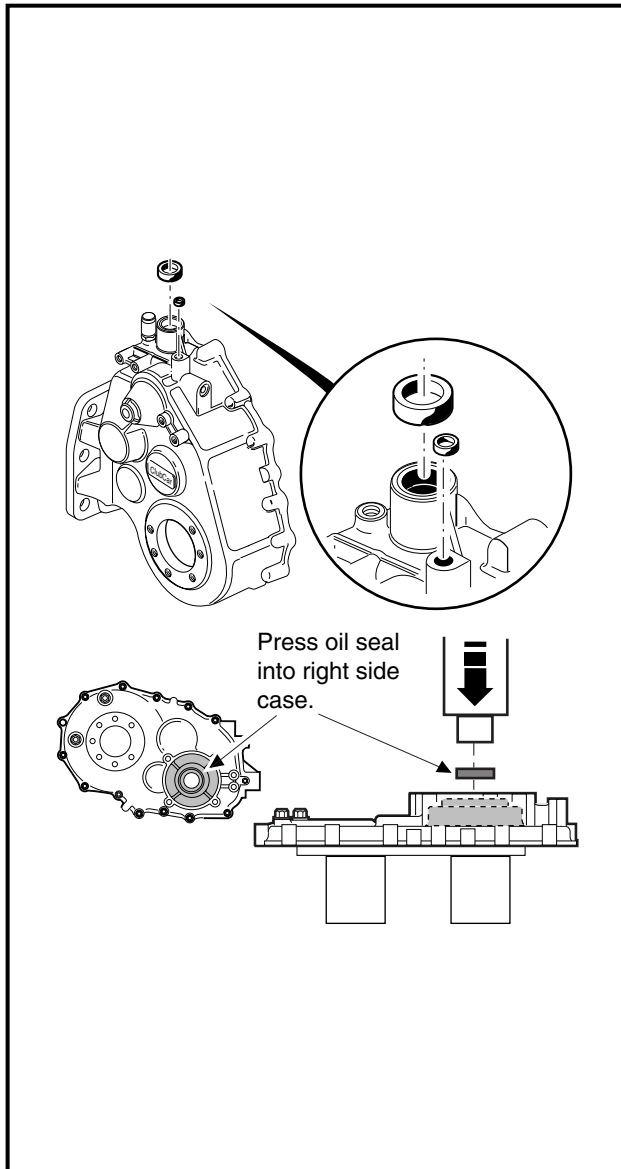

Figure 6-42 Install Seals
2. Put a light coating of clean transmission oil on the outside edge of the seal to make installation easier. Press two new oil seals (18 and 23) (**Figure 6-5, Page 6-4**) into the left (driver) side case. Use an oil seal installation tool (CCI P/N 1014160) to install a new oil seal (58) (**Figure 6-16, Page 6-9**) into the right (passenger side) case. **See also Figure 6-42, Page 6-21.**